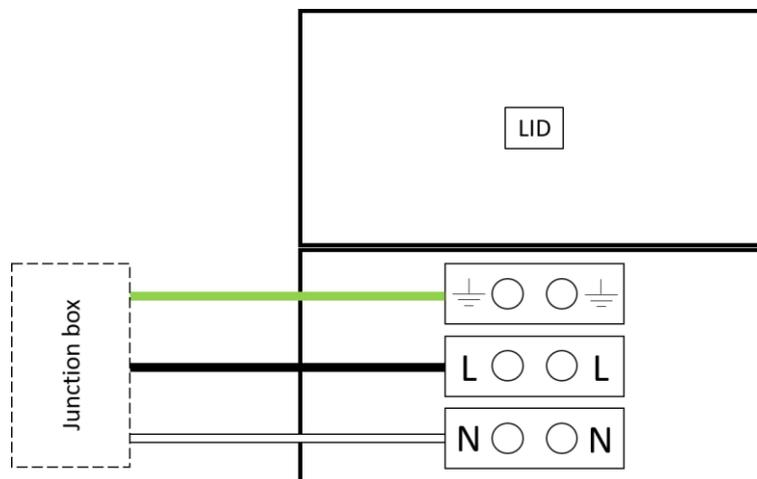

Fig. 47 *Example sketch of the supplied terminal*
- B. Extract screw terminal blocks from terminal box and connect both power supply cables (projector and external ones) as shown in figure 47: ground protection cable (green) to the top screw terminal, phase cable L (black) to the central screw terminal and neutral cable N (white) to the bottom screw terminal.